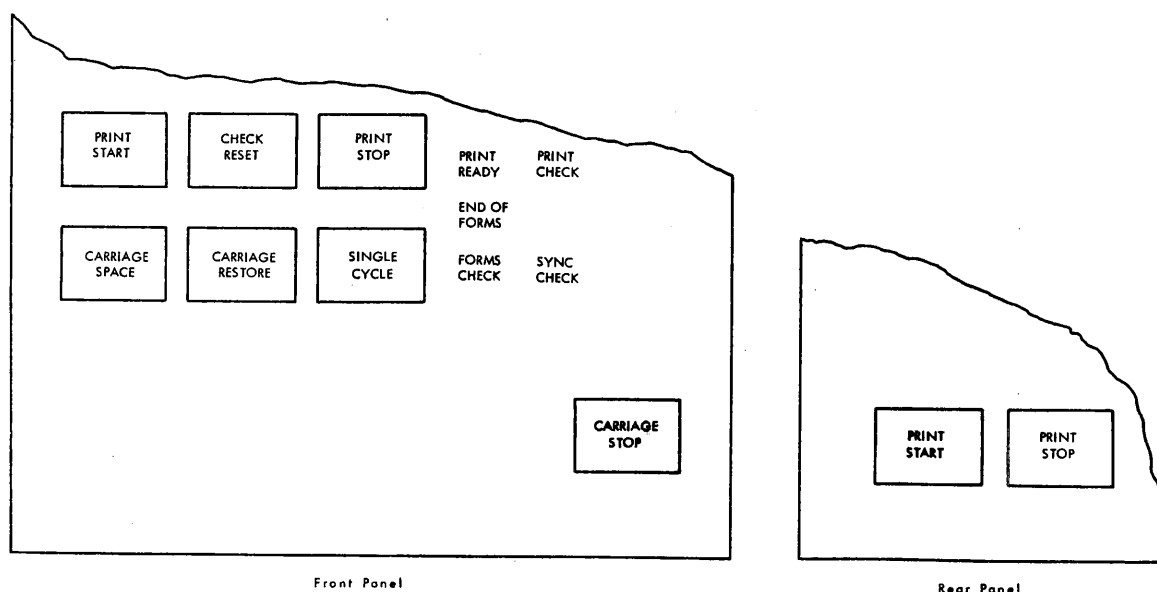

Figure 26. Printer Keys and Lights
With machine controls (Figure 26), the operator can control machine operation.
These lights (Figure 26) indicate various check conditions and printer status (ready or not ready.)
12. Restore the carriage tape to the first printing position by pressing the carriage restore key (Figure 26).
Inserting the new forms turns off the end of forms light, making the single cycle key (Figure 26) operative.
3. Press the single cycle key (Figure 26). Printing occurs on the skipped-to line. Press this key repeatedly to print on the first form until it reaches the upper forms tractors.